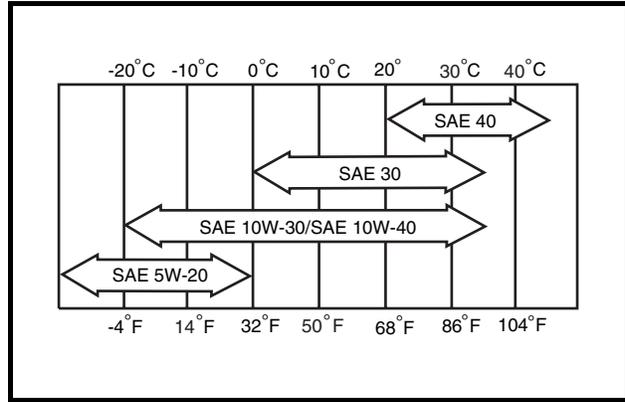

Figure 32 Oil Viscosity Chart
13. Remove the dipstick and add engine oil into the dipstick port. Use a funnel or pour spout to direct the oil into the dipstick port. With filter change, the engine requires 38 ounces (1.12 liters) of oil per change. Refer to oil viscosity guidelines for selection of oil grade (**Figure 32**). Replace the dipstick.